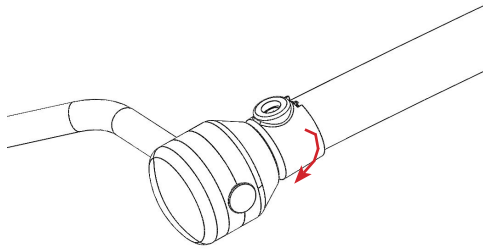

FIGURE 2.16 - Rotate Sleeve
STEP 6: Rotate the sleeve to secure the key in place, tighten the sleeve lock screw. Refer to FIGURE 2.16 and 2.17